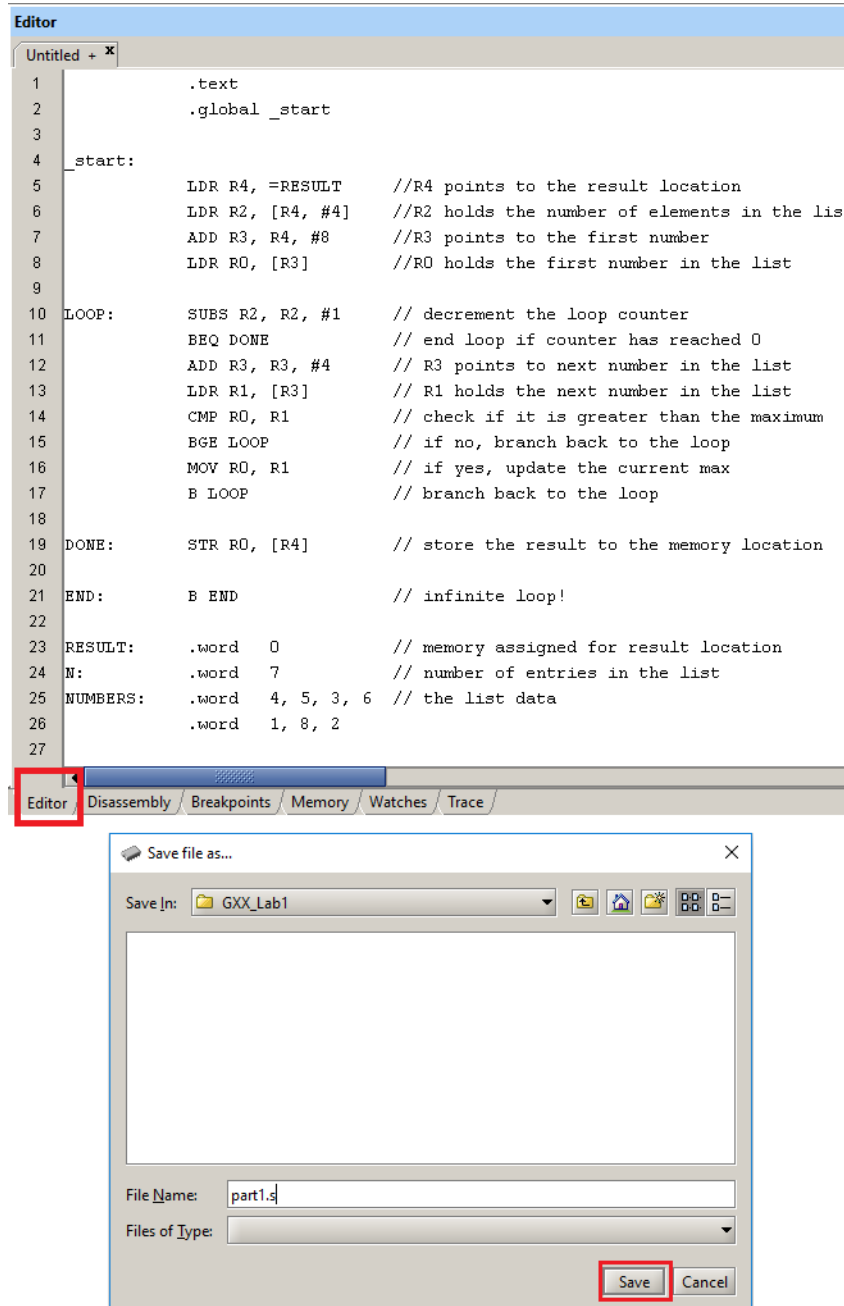

Figure 2: Your first assembly program - Step 2
2. In the new editor window, type out the code as shown in Figure 2 and save this file as 'part1.s' within a new folder 'GXX\_Lab1' on your network drive. Here, GXX stands for your group number! eg. Group 1 would be G01\_Lab1. The code is a simple program to find the maximum number from a list of 'NUMBERS' with length 'N'. Notice the extensive use of comments! This practice should be used throughout this course, especially with assembly programming!